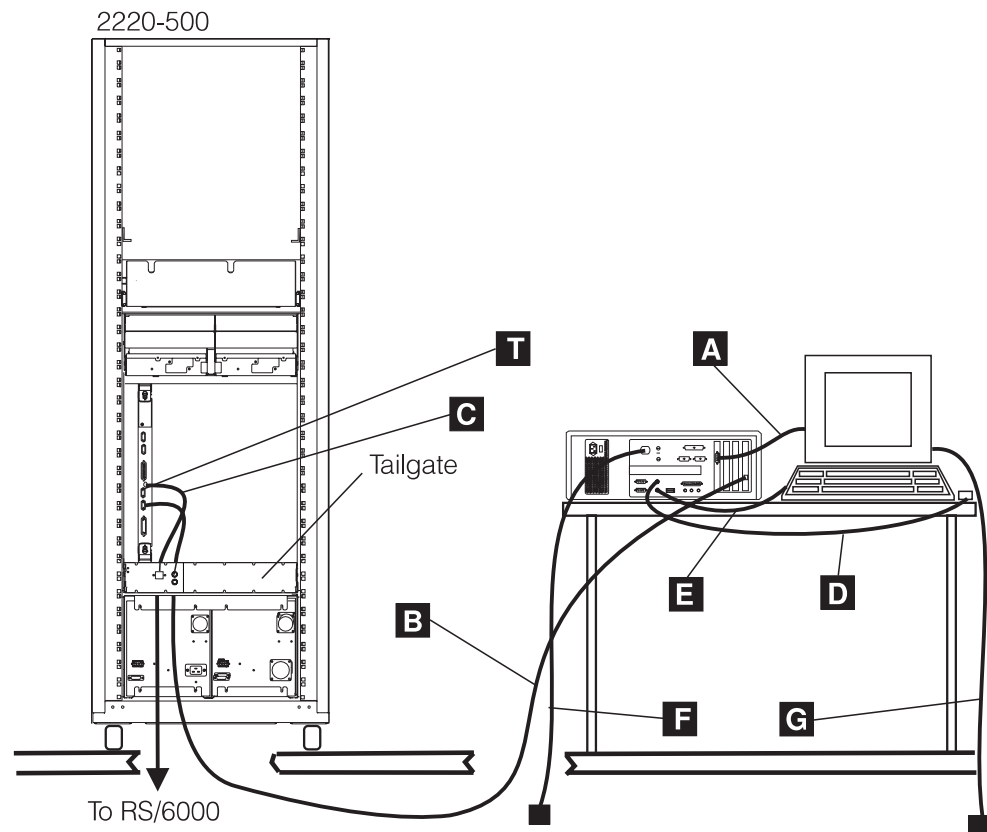
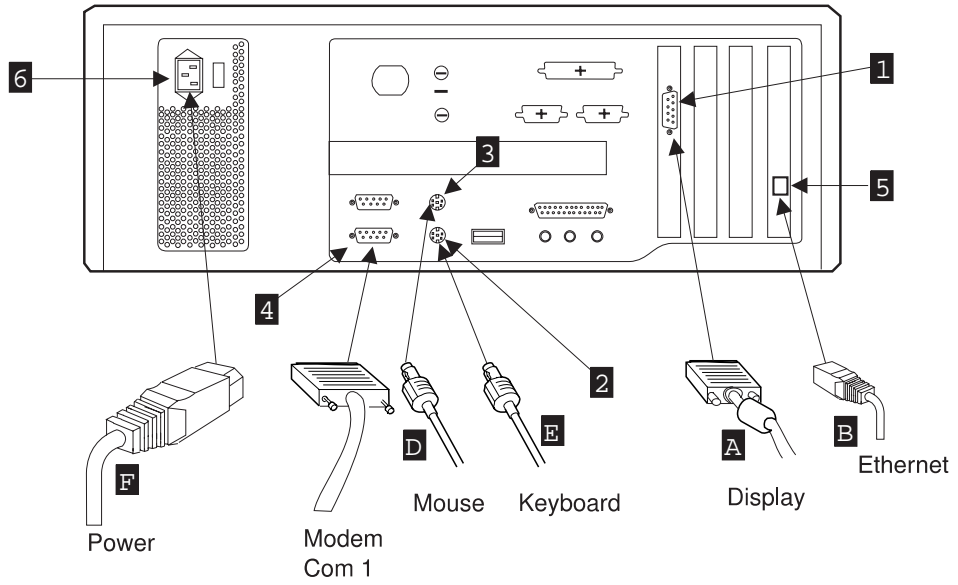

Figure 1-2. NAS Cables Installation
Figure 1-3. NAS Connectors
3. ____ See Figure 1-2 on page 1-3 to locate the cables and Figure 1-3 on page 1-4 to locate the NAS connectors, then install the following cables: